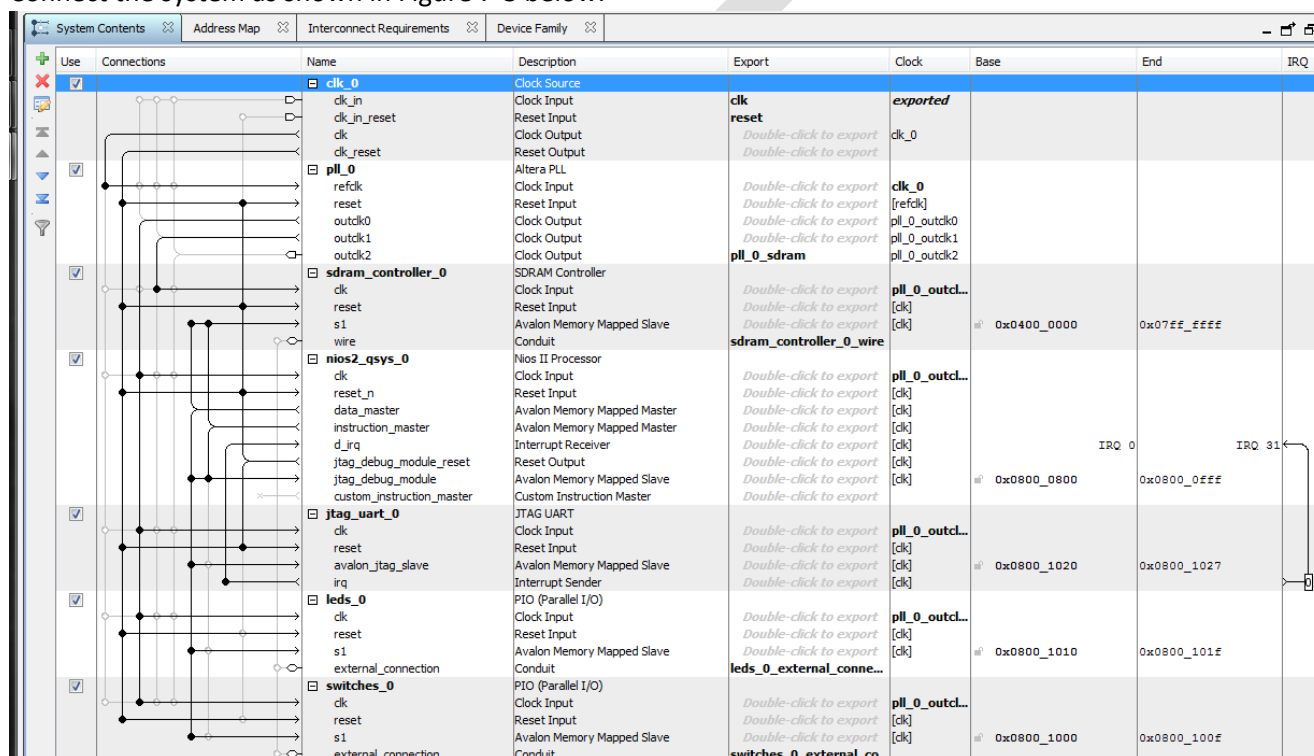

Figure 7-3. Adding LEDs and Switches to Nios II System
14. Connect the system as shown in Figure 7-3 below: